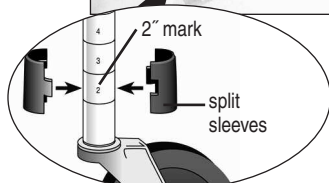

figure 2a
**A** Posts are numbered in 1" increments. Snap split sleeves onto each post at the 2" mark as shown in *figure 2a*. The thicker part of the taper goes toward the bottom. Make sure rib in split sleeve is seated into groove on post.